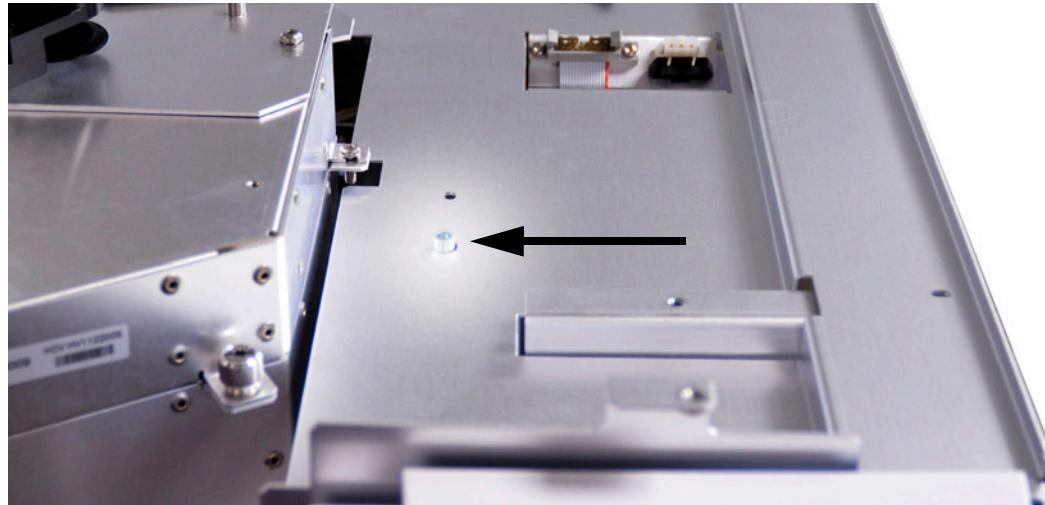

Figure 24 Top instrument cover correctly installed
- Be sure that the rivet shown in Figure 24 passes entirely through the opening on the top instrument cover.